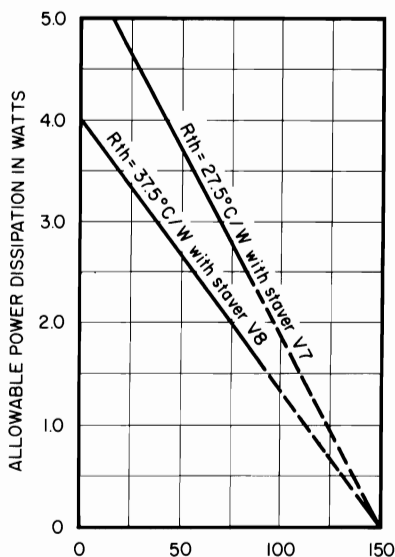
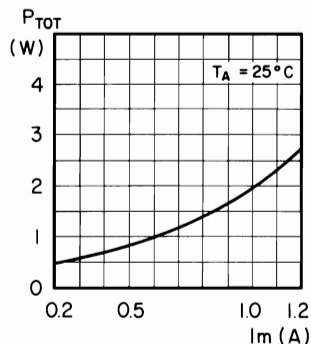
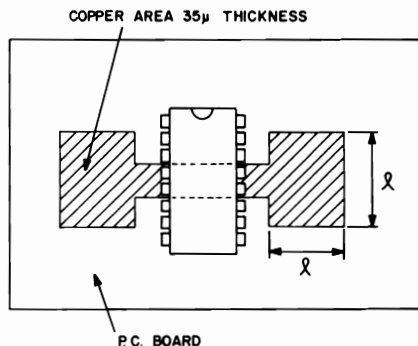
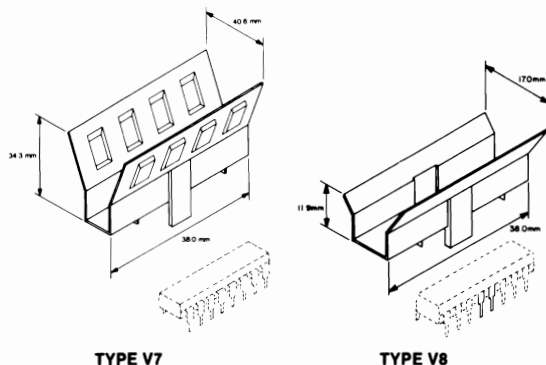

Fig. 3 Ambient temperature in °C.
Fig. 6 Typical power losses vs output current.
Fig. 7 Example Of P.C. Board Copper Area Which Is Used As Heatsink.
Fig. 8 External Heatsink Mounting Example
* Depends upon heat sink (see Fig. 3 & Fig. 9)
The θ_{ja} of the CS-3770 can be reduced by soldering the GND-pins to a suitable copper area on the printed circuit board (see fig. 7) or by applying an external heatsink Staver type V7 or V8 (see fig. 8). The diagram in figure 3 shows the maximum permissible power dissipation versus the ambient temperature in °C, for heatsinkers of the type V7, V8 or fig. 7 for a 20 cm² copper area respectively. Any external heatsink or printed circuit board copper area must be connected to electrical ground. For motor currents higher than 1000 mA heatsinking is recommended to assure optimal reliability.
The diagrams in fig. 3 and fig. 6 can be used to determine the required heatsinking of the circuit. In some systems forced air cooling may be available to reduce the temperature rise of the circuit.
The diagram of fig. 9 shows the maximum dissippable power P_{tot} and the $R_{th\ j-amb}$ as a function of the side "l" of two equal square copper areas having a thickness of 35μ (see fig. 7). In addition, it is possible to use an external heatsink (see fig. 8). During soldering the pins temperature must not exceed 260°C and the soldering time must not be longer than 12 seconds.